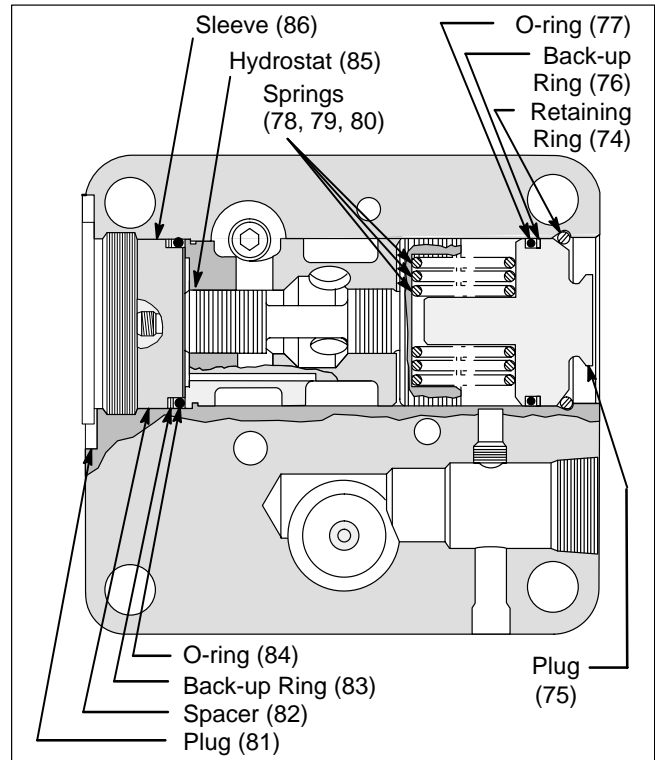
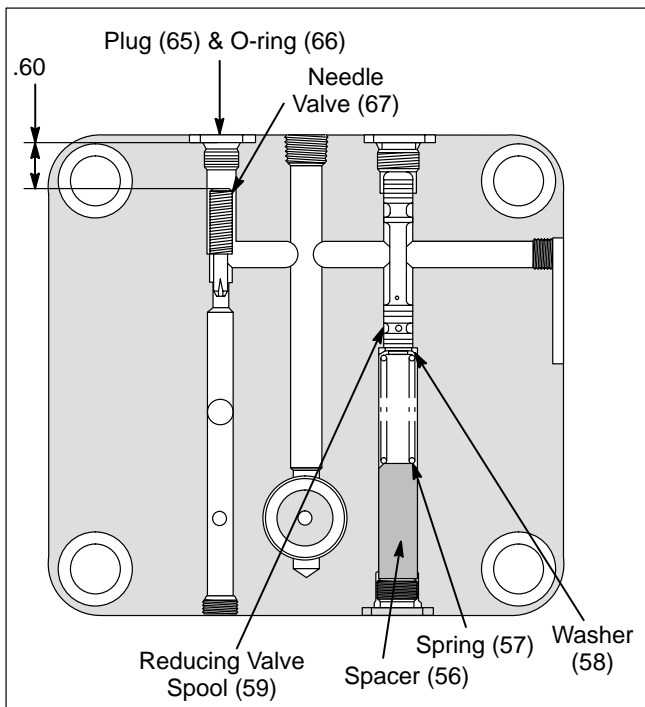

Figure 3. Sectional View of Hydrostat Arrangement.
Figure 4. Needle Valve and Pressure Reducing Valve.
4. Install O-ring (77) and Teflon back-up ring (76) on plug (75). Install plug (75) into body S/A (90) and insert retaining ring (74) in place. (Use an Arbor press or a ten inch "C" clamp to compress springs (80), (79), and (78). See Figure 3.
5. Install clamp (73) and screw (72). Do not tighten screw completely, at this time.
6. Install parts (71) thru (67). Thread needle valve (67) into body a depth of .60 inches. See Figure 4 for dimensional data.
7. Install parts (66) thru (51). See Figure 4 for correct orientation of reducing valve spool (59).